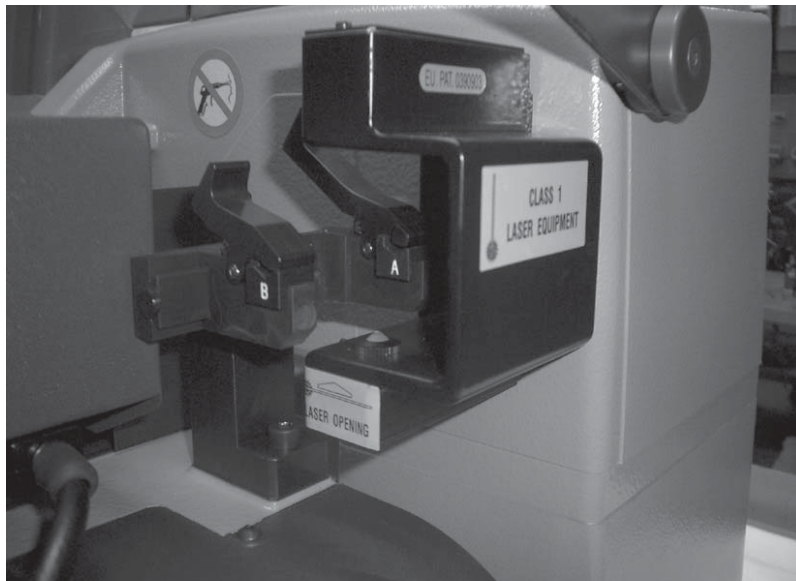

Fig. 15
- The Plexiglass protective shield carries an adhesive warning label (fig. 15). This label must never be removed.
- Two laser warning labels must be attached to the optical reader (fig. 15).